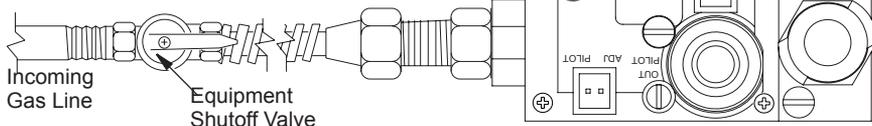

Figure 31 - Turning Equipment Shutoff Valve to the OFF Position
5. Turn equipment shutoff valve clockwise ↻ to the OFF position (see Figure 31). Do not force.
6. Wait five (5) minutes to clear out any gas. Then smell for gas, including near the floor. If you smell gas, STOP! Follow "B" in the safety information page 22. If you don't smell gas, go to the next step.
- Turn the adjustment screw marked PILOT clockwise to decrease or counterclockwise to increase the flame to proper size (see Figure 31, page 22). Do not remove the adjustment screw.